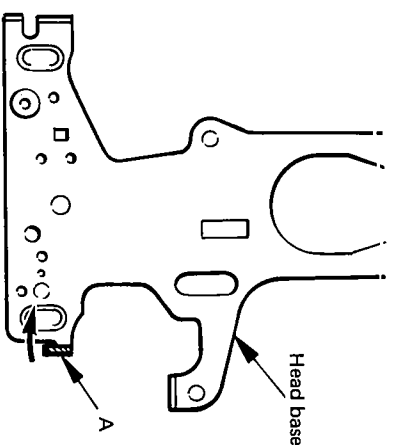

Fig. 2
- 3) If the pinch roller contact timing is simultaneous or reverse, advance the pinch roller contact timing of the take-up pinch roller by bending the A section in the below Fig. 2 in the arrow direction or replace the supply pinch roller assembly.